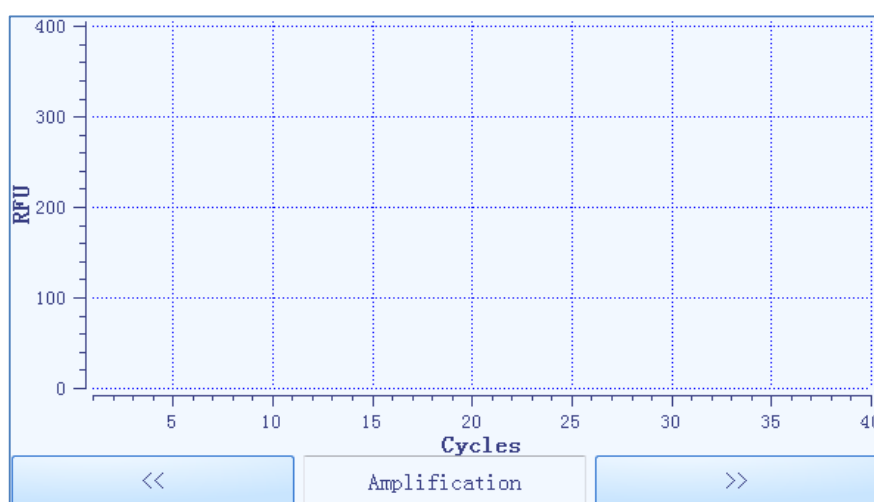

Figure E-4.1 Run Monitoring Diagram - Real-time Amplification Curve
- ▶ If user select the **Fluorescence** option in the run monitoring option bar, user can press  or  keys below the run monitoring diagram to choose the monitor content, which can be the real-time **Amplification** curve, **Melting** curve or fluorescence **Heat Map** of the current experiment, as shown in figure E-4.1.
- a. The run monitoring diagram will display the real-time **Amplification** curve of the current experiment by default, as shown in figure E-4.1.